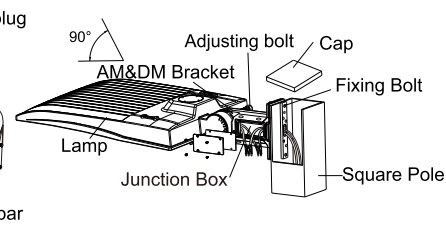

Figure 20
Step 2: Fix A&D bracket to square pole with bolt, open the cover of A&D bracket junction box, pull the wire into bracket junction box, connect the wire properly and cover the junction box. (Figure 20)
Notice: Adjustable angle is 0-90°.(Figure 20)